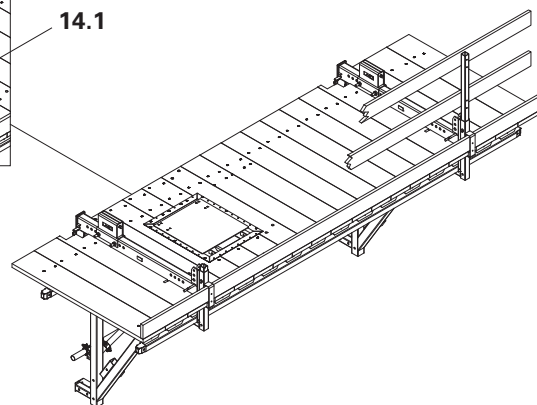

Fig. A2.04
We recommend the hatch, as featured, to be installed close to the bracket in order that personnel can hold the spindle when climbing. (Fig. A2.04)
- Attach hatch frame to the planking (approx. 20 x TORX 6 x 40). (Fig. A2.04)